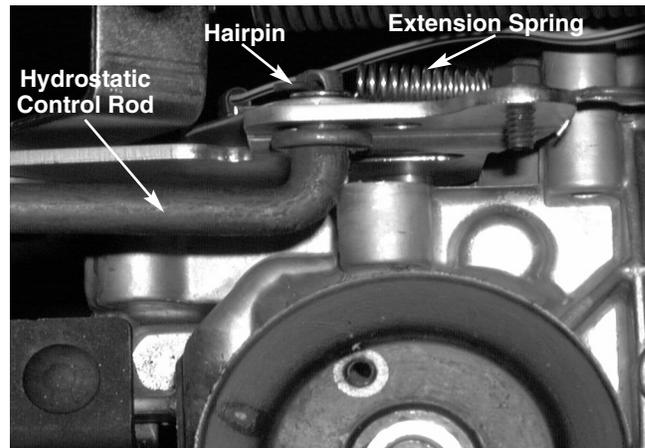

FIGURE 2.
**NOTE:** Make certain the small extension spring is properly installed during reinstallation. See figure 2 and 3.